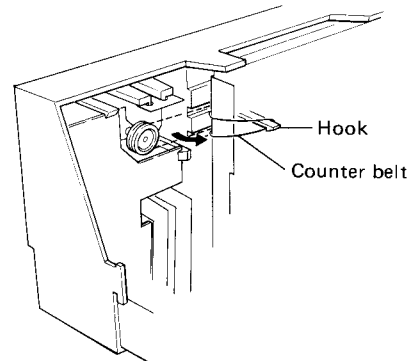

Fig. 3-4
4. Remove the counter belt. (Refer to Fig. 3-4)
2. Remove the counter belt. (Refer to Fig. 3-4)